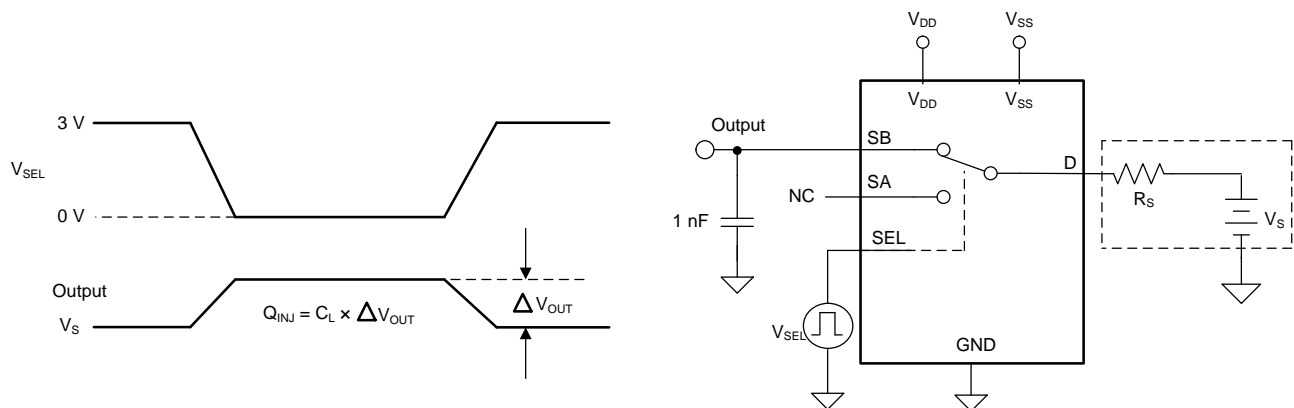

Figure 22. Charge-Injection Measurement Setup
The TMUX6136 have a simple transmission-gate topology. Any mismatch in capacitance between the NMOS and PMOS transistors results in a charge injected into the drain or source during the falling or rising edge of the gate signal. The amount of charge injected into the source of the device is known as charge injection, and is denoted by the symbol  $Q_{INJ}$ . Figure 22 shows the setup used to measure charge injection from drain (D) to source (Sx).